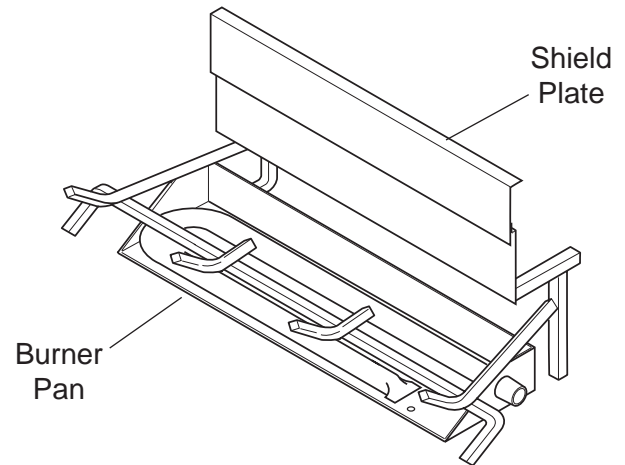

Figure 92- Sliding Shield Plate Down Back of Burner Pan
1. Slide shield plate down back of burner pan. See Figure 92.